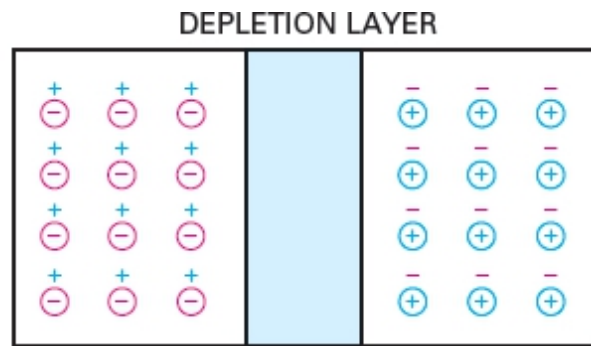

Figure-5 Depletion layer
- As the number of dipoles builds up, the region near the junction is emptied of carriers. We call this charge-empty region the depletion layer (see Figure-5).